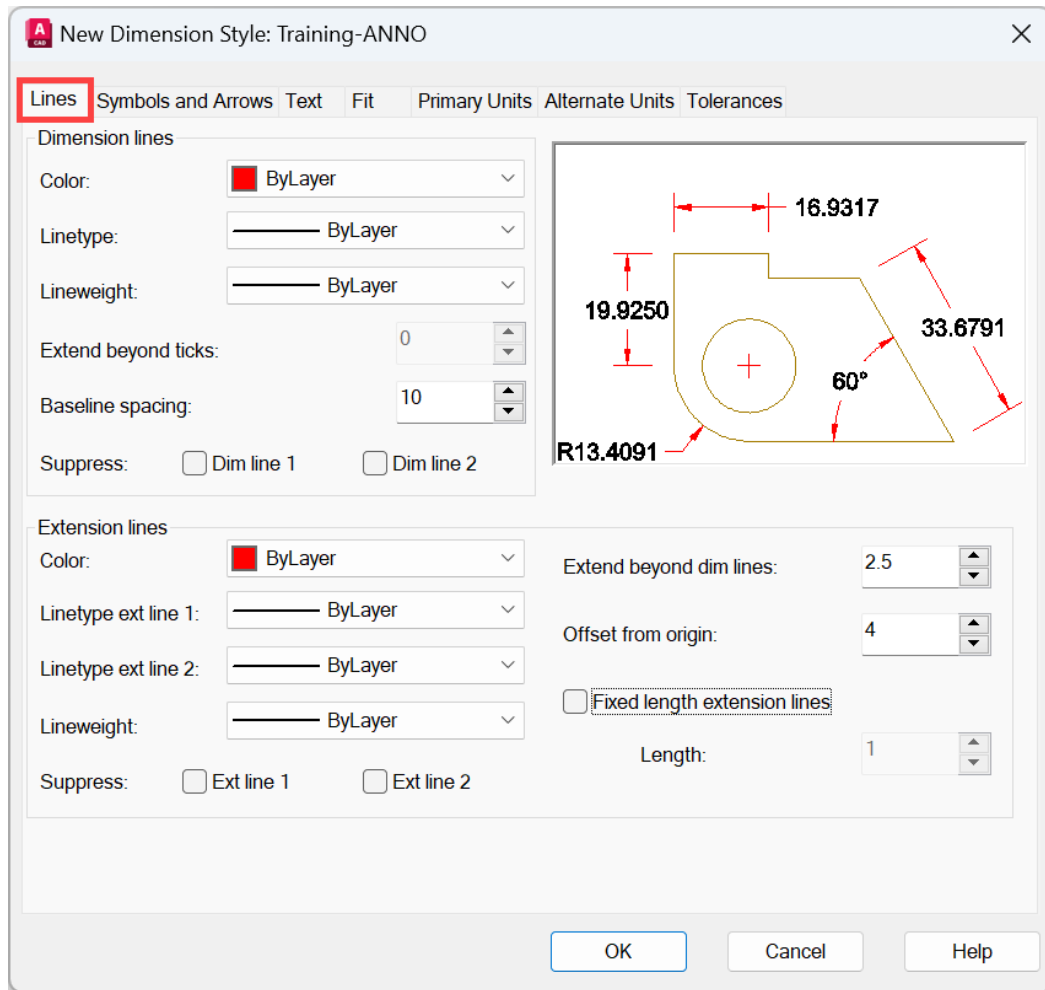

Figure 7.11: The New Dimension Style: Training-ANNO dialog box with the Lines tab
8. You will now see the **New Dimension Style** dialog box specific to the new dimension style that you created, along with its name, displayed in the title bar of the dialog box, as shown in *Figure 7.11*.
9. You can see tabs at the top of the dialog box, and you will be working across those tabs from left to right to customize the dimension style. Ensure the **Lines** tab is current and all settings in the tab in your dialog box are the same as in *Figure 7.11*.